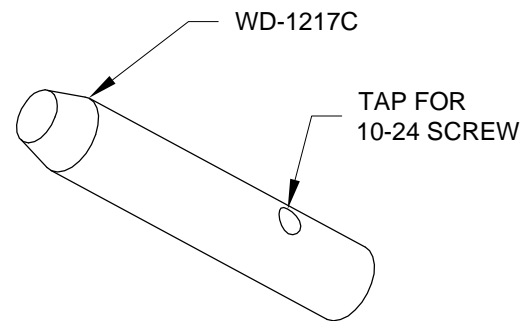

FIGURE 1: FUSELAGE PIN STOPPER ASSEMBLY
Step 1: Tap the hole in each of the WD-1217C Fuselage Pin Stoppers as shown in Figure 1.